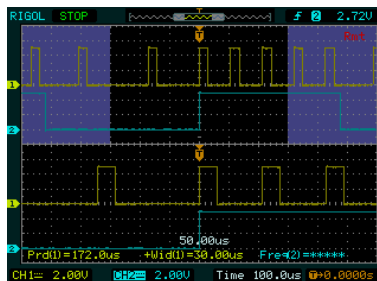

**Figure 61. 1KHz Trigger & Gate**
15. Using a 24AWG solid wire connect the TRIG tie point block to the GATE tie point block. You should observe the waveforms shown in Figure 61. The PG output should remain low the entire time the GATE input is held low by the FG clock. The function of the GATE input of the PG is to inhibit the output when held low.